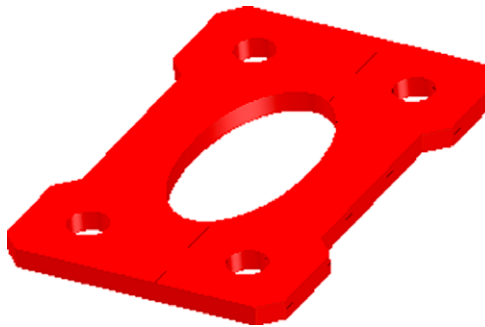

Fig. 17.21 First example – 2D outlines in 3D space
### First example – 2D outlines in 3D space (Fig. 17.21)
7. Place in the **View/Visual Style/Realistic** visual style. Extrude the region to a height of **10** (Fig. 17.21).